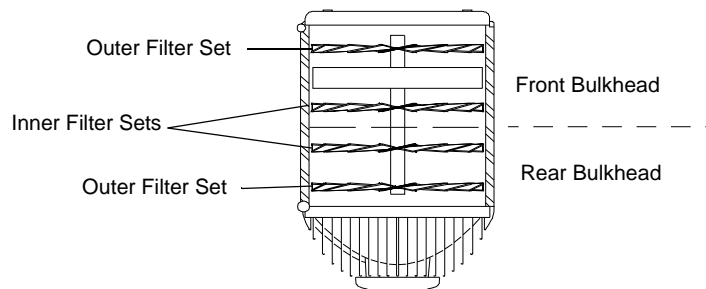

Figure 2-19: Inner and Outer Filter Set Locations
Step 5. Determine whether drive ring pin is missing from an inner or outer filter set. **Figure 2-19.**